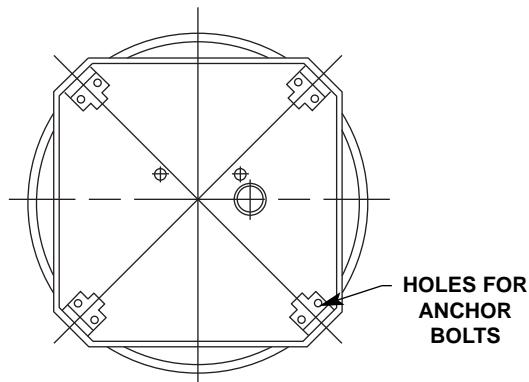
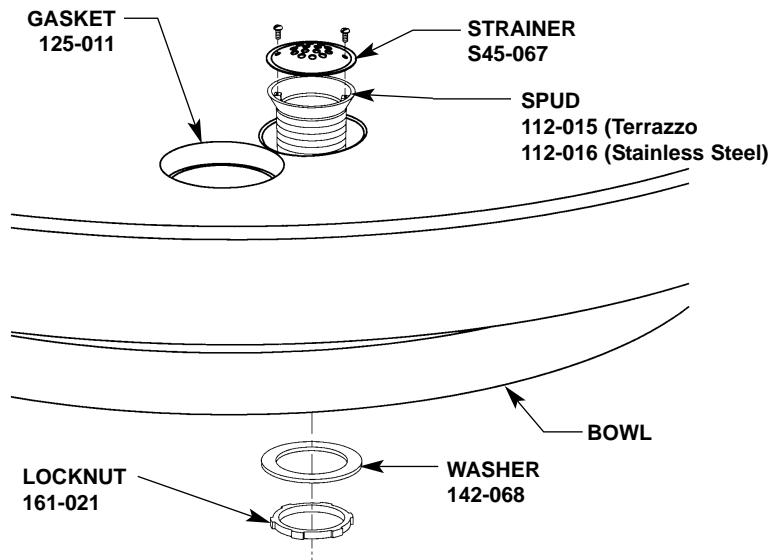

Figure 5
Figure 6
3. Position the bowl and pedestal assembly so that the bowl drain is in line with the trap or drain line (see Figure 5 at right and figure 6 on page 10).
4. Screw the drain spud part of the way into the drain to ensure correct alignment (see Figure 6 on page 10).
1. Place the pedestal assembly as shown in Figure 5.
3. Screw the drain spud part way into the drain to ensure correct alignment (see Figure 6).
1. Secure drain spud with lock nut and washers as shown in Figure 6.